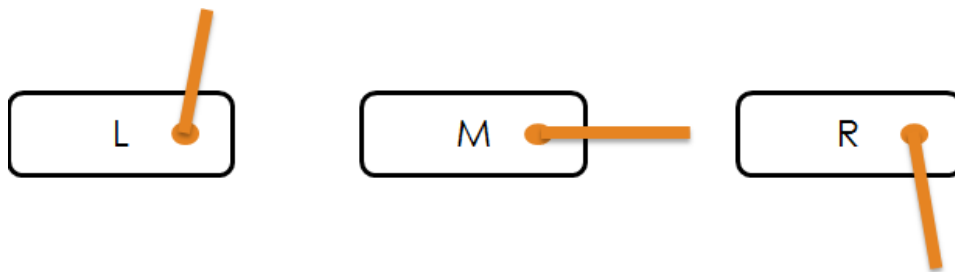

Figure 3: Servo motor arm positions
Figure 3 illustrates motor arm positions in relation to signal pulse lengths. In order to move the servo motor arm to the below mentioned positions, the following pulse lengths have to be applied:
- In order to maneuver the servo motor arm so the plane becomes horizontal, a pulse length of 1.5 ms should be generated in terms of operating clock ticks, which should be assigned to the variable "MIDPOS." The operating clock tick rate can be derived from the system clock frequency and the applied prescaler (TCCR3B). Calculate and implement the theoretical value of the variable MIDPOS which should corresponds to the plane in the horizontal position (Figure 3).